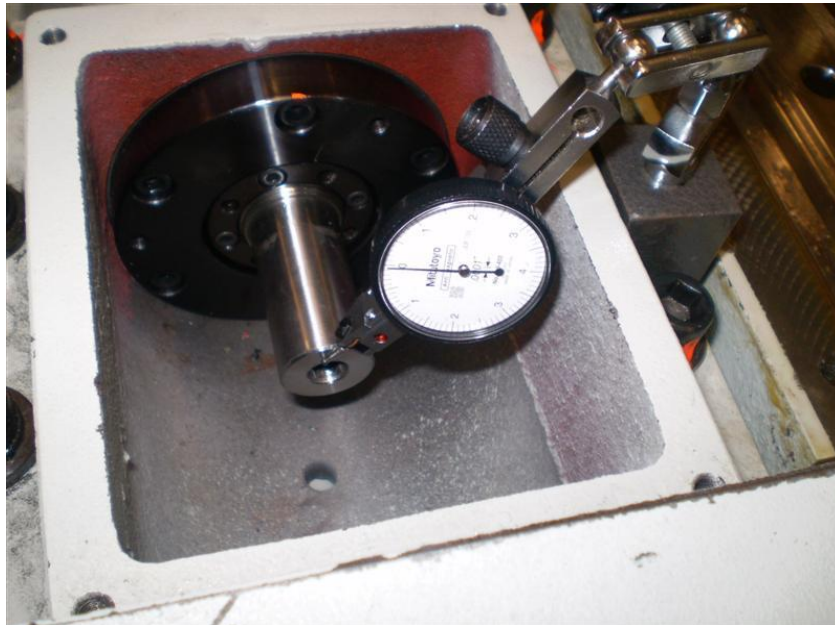

Figure 6.8.3a
1. Set-up a .0001 test indicator at motor end. Load the indicator approximately .003" then reset the dial to zero as shown in figure 6.8.3a. This indicator will measure "Pull Through" not pre-tension.
3. Install the SWI pre-tensioning socket onto the bearing locknut (support end) as shown in figure 6.8.3a